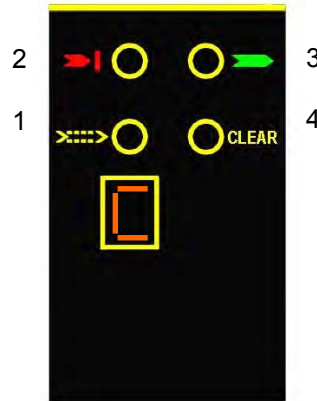

Figure 9
The symbols showed on the 7 segments display and the leds of the active elements are visualized depending on the system operation phase. The tables below shows the different signals (ref. Figure 9).
- Verify that moving the test object close to the two beams, the red led (Figure 9) lights on.
If the orange weak signal LED on the active unit switches on (LED 1 in Figure 9), check that: